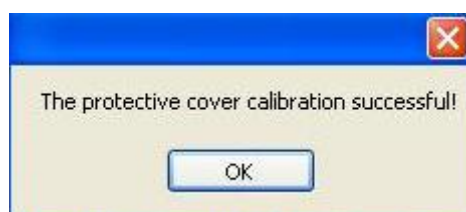

Fig.3.5.2 Prompt of calibration
1) Finish step (1) and step (2) according to Chapter 3.5.1.
2) Click **【Calibrate】** to calibrate the protective cover. Dialog box will be popped up to prompt that calibration has been finished successfully, as shown in Fig.3.5.2.